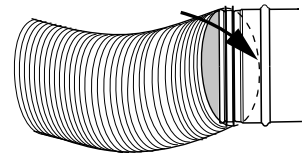

Fig. 1
- When connecting the flexible duct to a fitting, make sure to pull the flexible duct up to the stop bead of a fitting (see fig. 1).